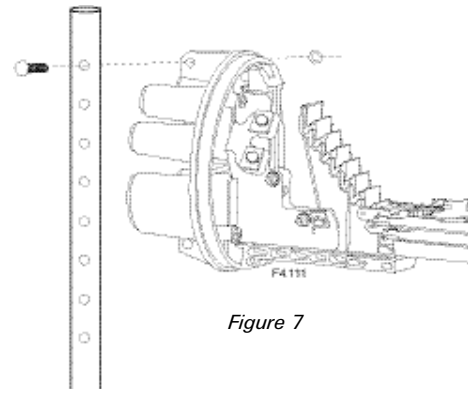

Figure 7
6. Attach the D5 base to the FOSC work stand using a nut and bolt. (See Figure 7)